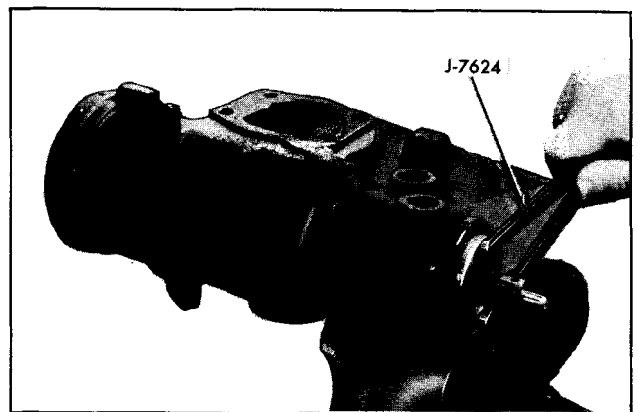

Fig. 9-85 Removing Adjuster Plug
- b. Remove adjuster plug assembly with spanner J 7624 (Fig. 9-85).